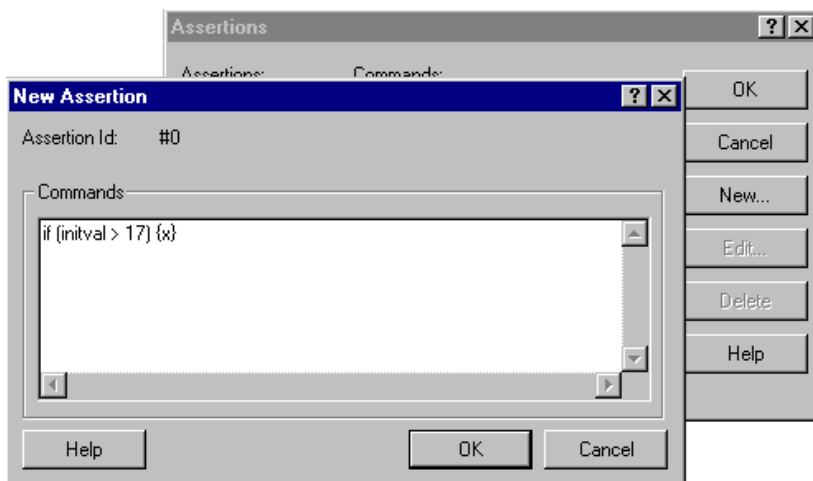

Figure 7-4: Defining Assertions
- Click on the New... button to open a text edit dialog box as shown in figure 7-4 to type in commands.